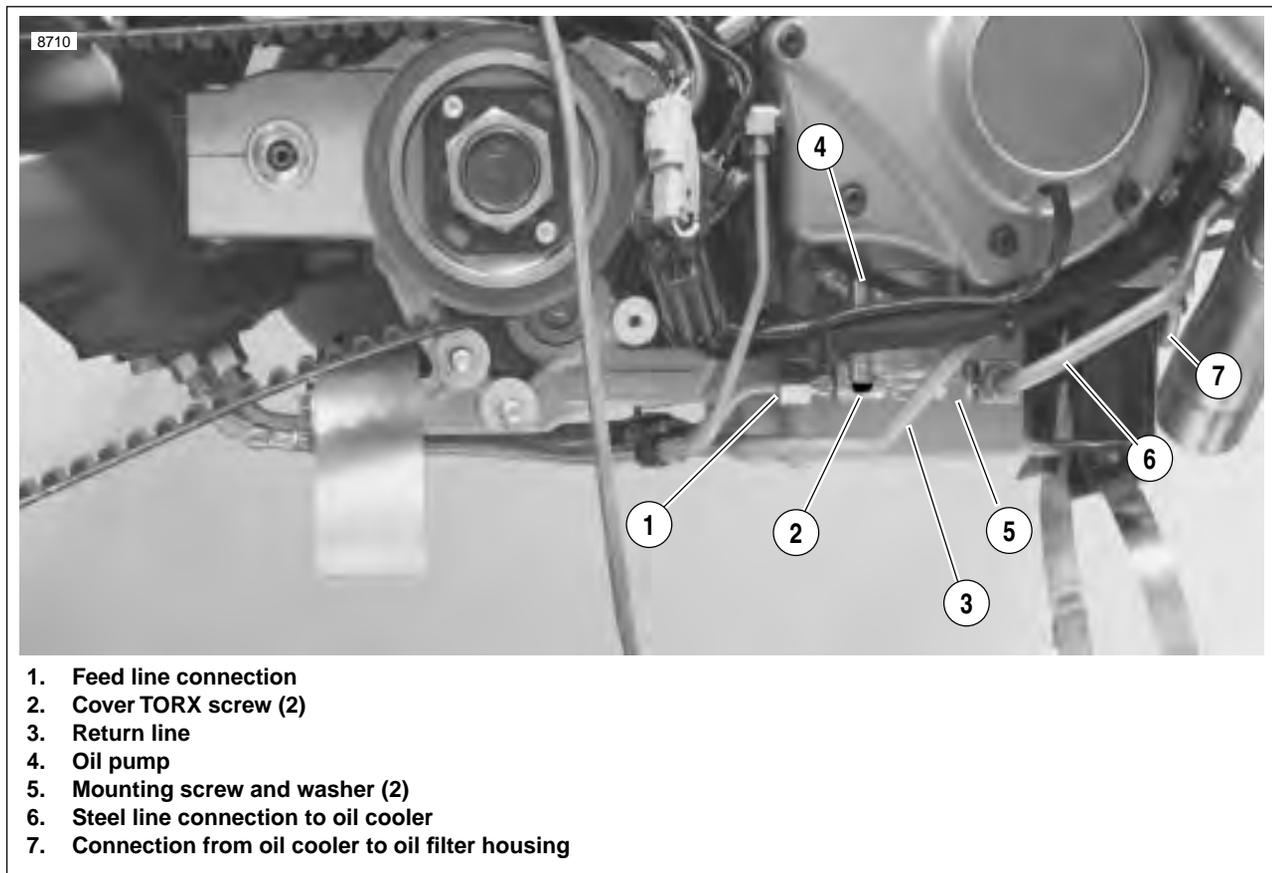

Figure 3-117. Oil Pump Hardware
3. See Figure 3-117. Disconnect feed line connections (1 & 6) on both sides of the oil pump.
4. Detach return line connection (3).
5. Carefully remove mounting screws (5) and washers only. Pump will drop with screws removed. Discard mounting gasket.
6. Remove cover TORX screws (2). Lift cover off body.
10. See Figure 3-117. Attach return line connection.